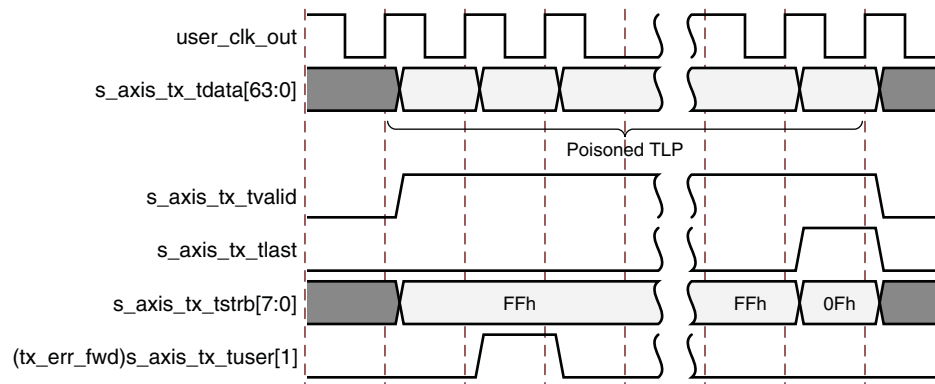

Figure 3-12: Packet Data Poisoning on the Transmit Interface
- Assert (tx\_err\_fwd) s\_axis\_tx\_tuser[1] for at least one valid data transfer cycle any time during the packet transmission, as shown in Figure 3-12. This causes the core to set EP = 1 in the TLP header when it transmits the packet onto the PCI Express fabric. This mechanism can be used if the User Application does not know whether a packet could be poisoned at the start of packet transmission. Use of terr\_fwd is not supported for packets when (tx\_str) s\_axis\_tx\_tuser[2] is asserted (streamed